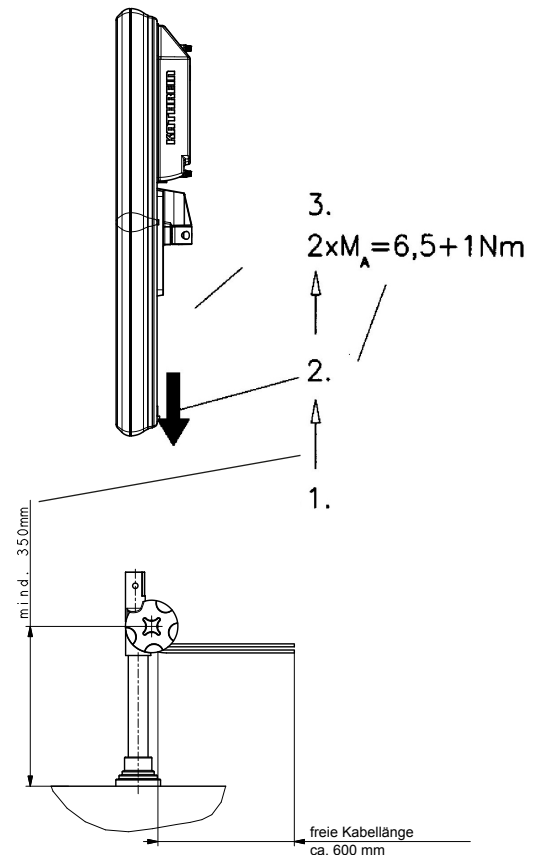

Fig. 6
Mounting the antenna (Fig. 6)
1. Prepare the mast swivel head as shown in Fig. 6